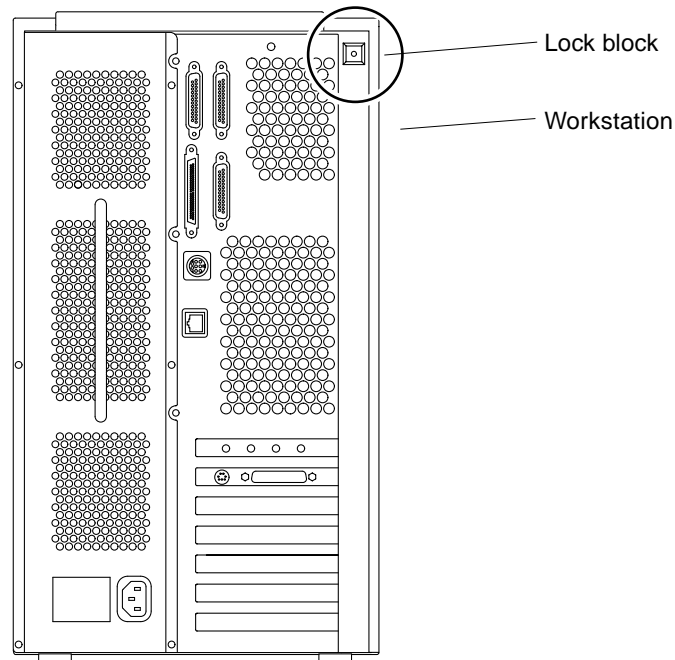

FIGURE 2-2 Lock Block Location
- 7. Remove the lock block, if installed (FIGURE 2-2).
5. Replace the lock block (FIGURE 2-2).